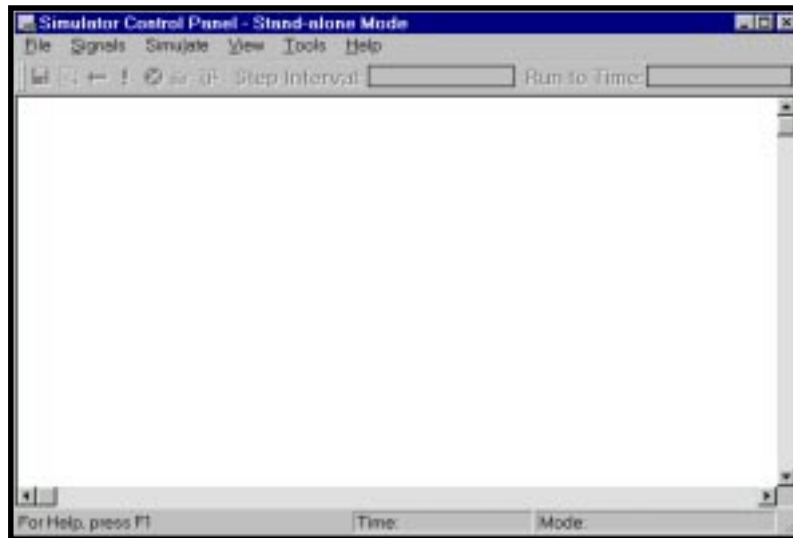

Figure 5-4. Simulator Control Panel - Stand-alone Mode
1. Select **Tools** ⇒ **Lattice Logic Simulator** from the Project Navigator. The Simulator Control Panel window appears (Figure 5-4) in its stand-alone mode.